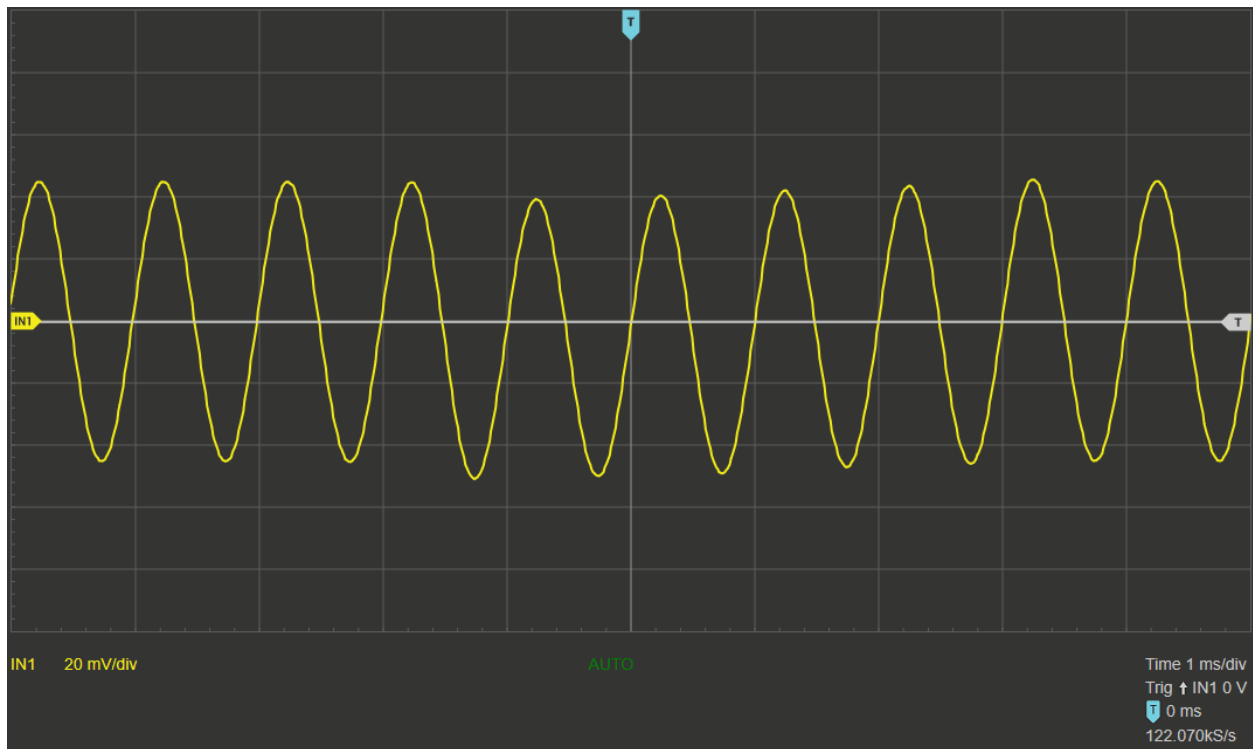

Figure 4: Input from Board 1 on Board 2
2. After step 3, the input from board 2 on board 1 is shown in Figure 4 below: